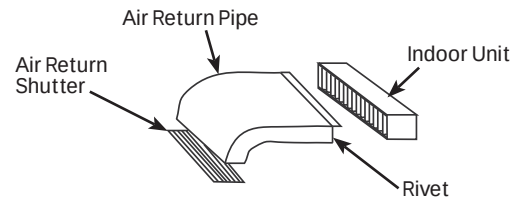

Figure 3.
2. Installation of the air return pipe: Connect one side of the air return pipes to the air return port of the indoor units with rivets, with the other side connected to air return shutter, as shown in Fig. 3.